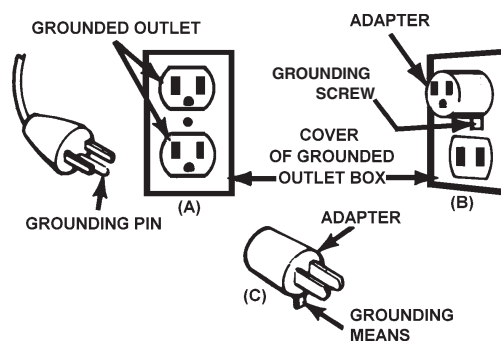

FIGURE 1 GROUNDING METHODS
Charger should be grounded to reduce the risk of electric shock. Charger is equipped with an electric cord having an equipment grounding conductor and a grounding plug. The plug must be plugged into an outlet that is properly installed and grounded in accordance with all local codes and ordinances. This battery charger is designed for use on a nominal 120 volt circuit and has a grounded plug that looks like the plug illustrated in FIGURE 1 (A). This plug should be used in a grounded outlet. The plug pins must fit the receptacle (outlet).
ADAPTER: A temporary adapter, as shown in FIGURE 1 (B) and (C), may be used to connect the charger plug to a two pole receptacle (outlet), as shown in FIGURE 1 (B).